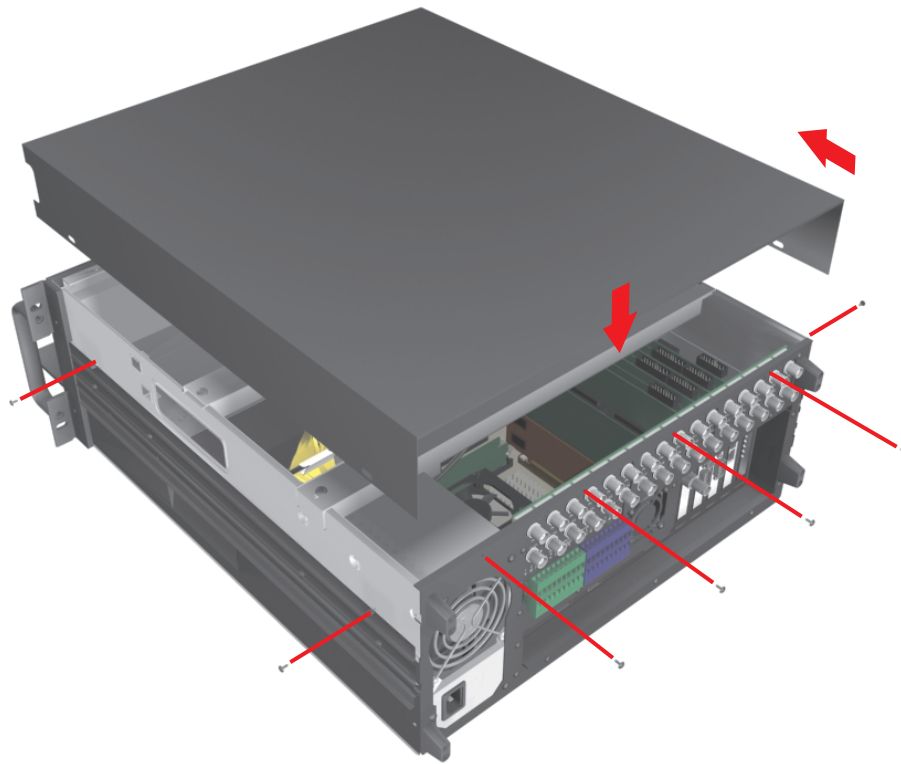

Figure 12. Replacing Chassis Cover
1. Replace the chassis cover using the same screws you removed from the side and rear of the unit. Refer to Figure 12.